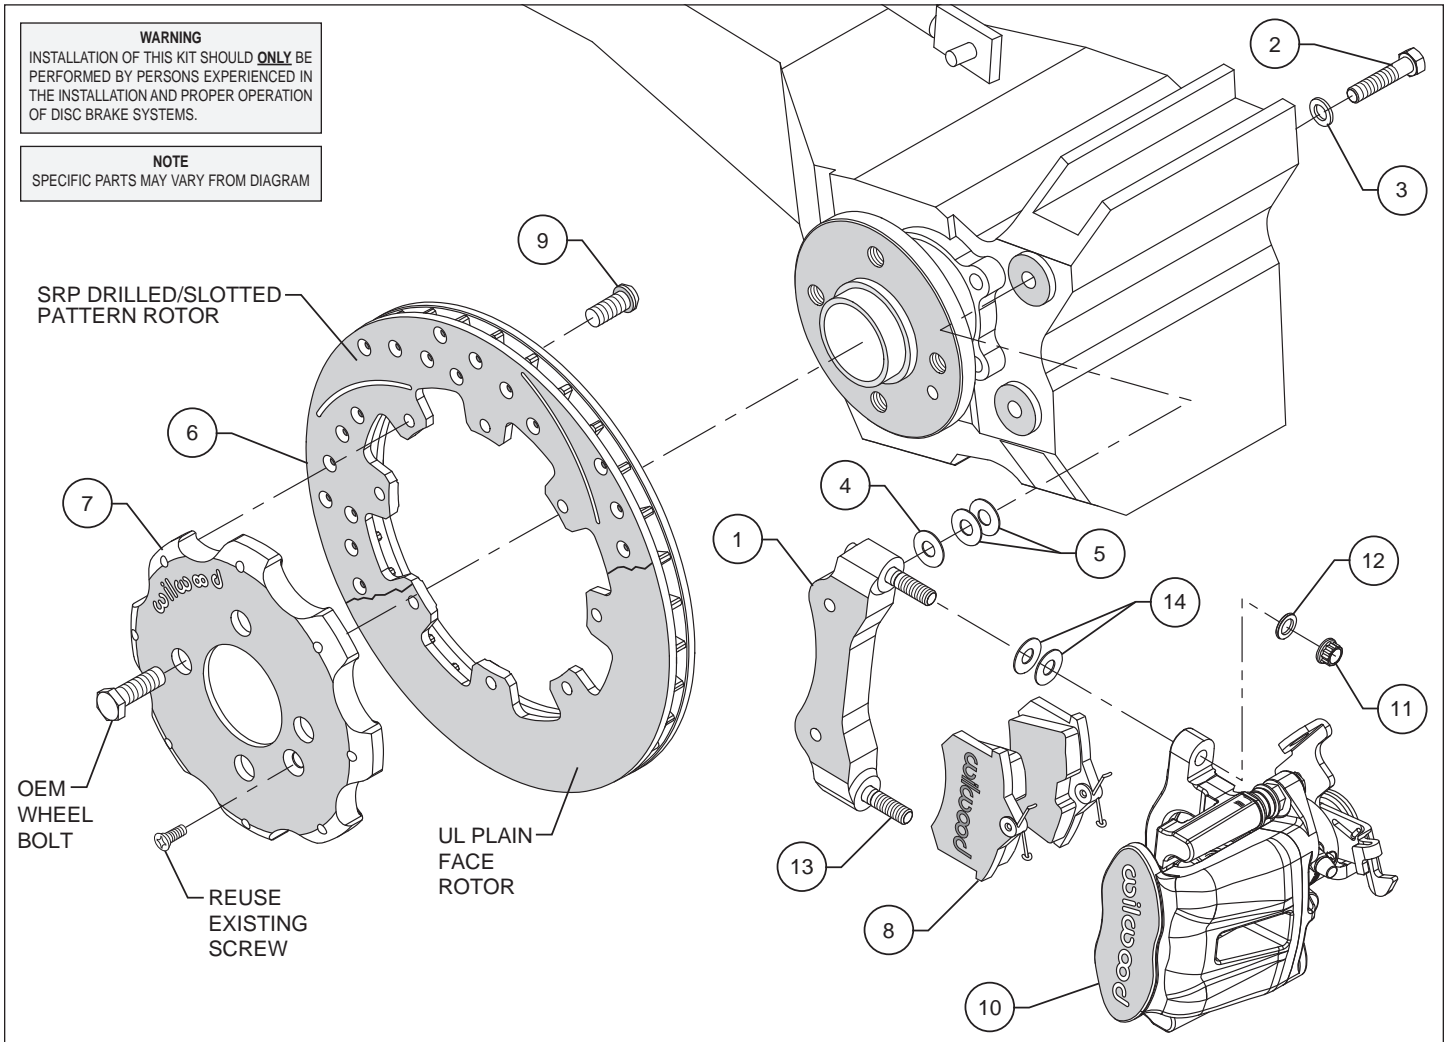

Figure 1. Typical Installation Configuration
- The caliper mounting bracket (1) should be installed first with clean, dry threads on the mounting bolts. Install the bracket (1) on the outboard side of the hub assembly by sliding bolt (2) from the inboard side of the arm assembly through washer (3) through the existing OEM caliper mounting holes and thread into caliper mounting bracket (1). Place two shim washer (5) between the bracket (1) and the caliper mounting tabs (see figure 1). The mounting bracket (1) must tighten squarely against the outboard side of the arm assembly face. Inspect for interference from casting irregularities, machining ridges, burrs, etc.
- With the larger I.D. side of the rotor (6) facing away from the hat (7), attach rotor (6) to hat (7) using bolts (9) as shown in Figure 1. Using an alternating sequence, remove bolts one at a time, apply red *Loctite*[®] 271 to the threads, and torque to 25 ft-lb.
- Slide the brake pads (8) up into the caliper (10) from the bottom compressing the "v" spring clip until the pad snaps into place against the caliper bracket, pads should install easily without interference.
- Lubricate caliper mounting studs and nuts with lightweight oil. Install two shims (14) over each stud (13) on the radial mount bracket (1). Slide the caliper (10) in place over the studs and rotor and install the washer (12) and lock nut (11) to hold the caliper in place. The caliper bleed screw should be pointing toward the rear of the vehicle. Snug the lock nuts (11) and check that the caliper (10) is centered over the rotor (6). Add or subtract .016" shims (4) and/or .035" shims (5) as necessary between the caliper mounting bracket (1) and the spindle face to center the caliper (10) on the rotor (6).
- Check that the outside radius of the brake pad (8) is flush with the outside diameter of the rotor face. Add or subtract shims (14) between the caliper (10) and the caliper mounting bracket (1) to gain the proper alignment.
- Check that the caliper is centered side to side on the rotor. Add or subtract shims, (4) and/or (5) between caliper bracket (1) and arm to properly position the caliper.
- Once all clearances have been checked, remove the wheel, caliper and rotor from the axle flange. Secure the caliper mounting bracket (1) to the hub assembly mounting holes while applying red *Loctite*[®] 271 to the bolt threads (2). Torque bolts (2) to 35 ft-lbs. Reinstall the rotor and again use several wheel bolts to hold it in place. Reinstall the caliper, torque the caliper nuts (11) to 30 ft-lbs.